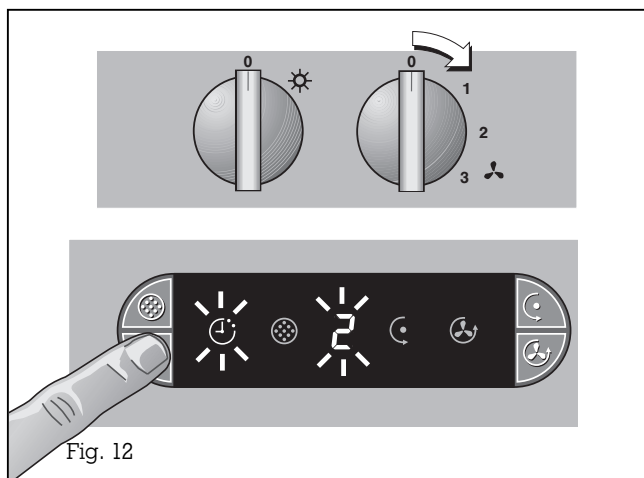

Fig. 12
- The ☀ (After-running) symbol and the set ventilation level light up on the display (Fig. 12).